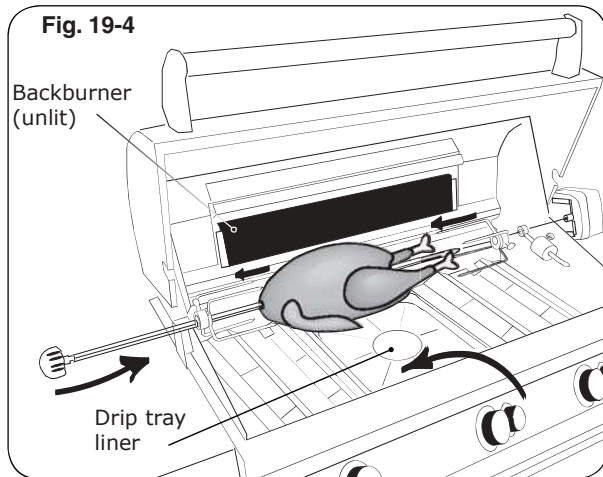

Fig. 19-4
4. Slide the left meat holder onto the rod (and tighten), the meat onto the rod and into the holder, followed by the right meat holder onto the rod and into the meat as shown in Fig. 19-4. Tighten the right meat holder. Be sure the meat is centered and balanced as well as possible.
11. To keep drippings off the burners and simplify cleanup, place Fire Magic® drip tray liners under the meat, if desired (Fig. 19-4).